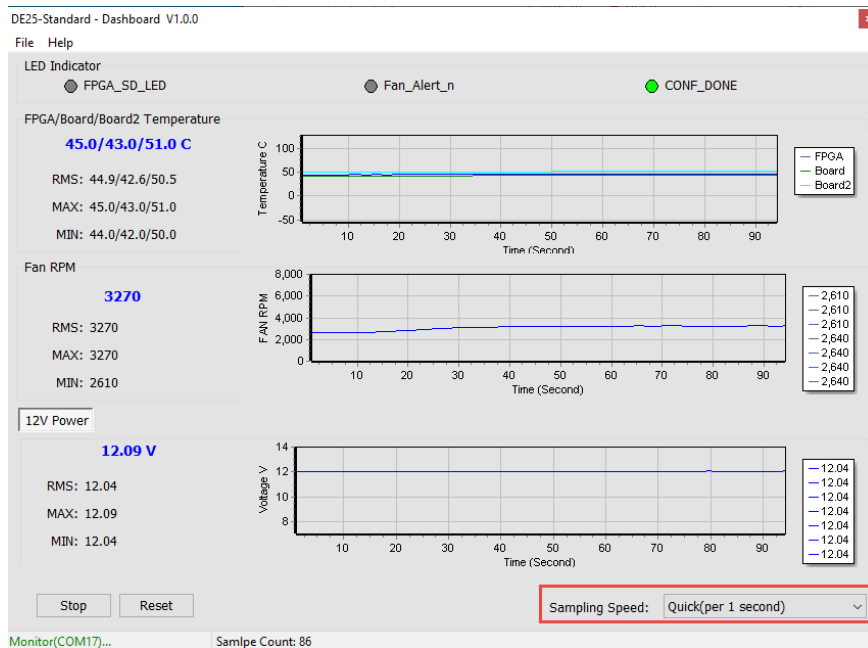
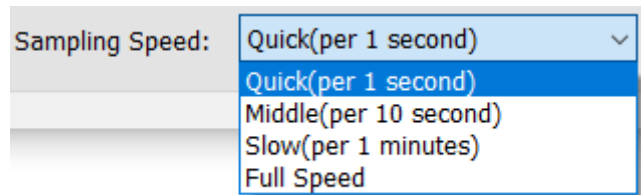

Figure 4-13 Sampling speed section
Figure 4-14 Options of sampling speed
- Sampling Speed:** It can change interval time that the Dashboard GUI sample the board status. Users can adjust it to 1s/10s/1min/Full Speed (0.1s) to sample the board status, as shown in **Figure 4-13** and **Figure 4-14**.